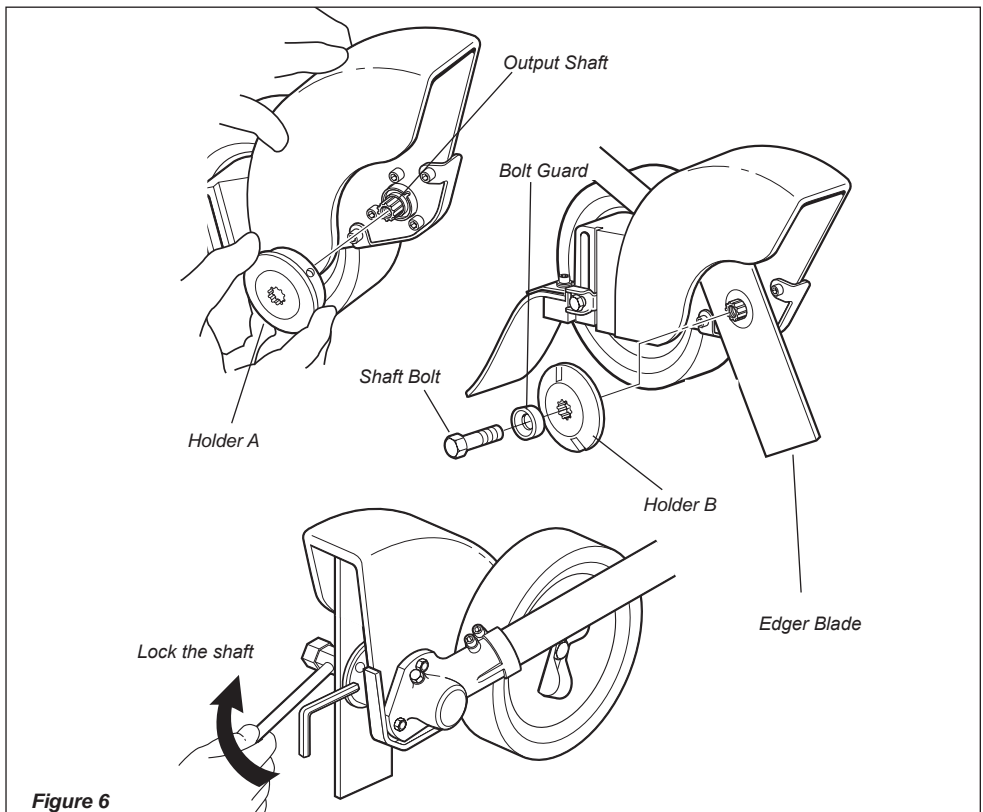

Figure 6
3. Install the socket-head screws with washers, then use the hex wrench to firmly tighten all three screws. See Figure 6.
1. Install the holder A onto the output shaft. See Figure 6.
2. Mount the edger blade and holder B onto the output shaft, and then install the bolt guard and shaft bolt (turn bolt counter-clockwise to install). See Figure 6.
3. Align the hole in holder A with the matched hole in the gearcase, and then use the hex wrench to temporarily lock the output shaft. See Figure 6.
4. Use the combination wrench to firmly tighten the shaft bolt. Remove the hex wrench. See Figure 6.